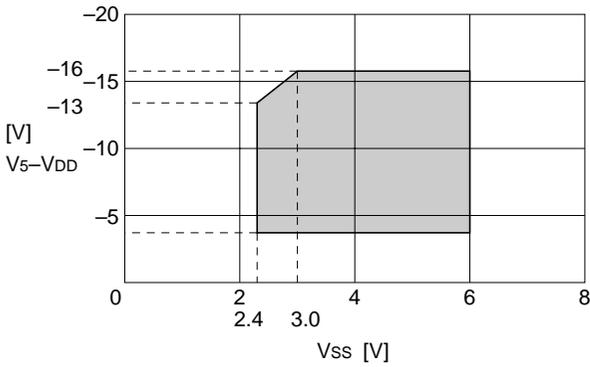

Figure 11
- *2. The operating voltage range of the V_{SS} and V₅ systems (see Figure 11). The operating voltage range is applied if an external power supply is used.
- *3. Pins A0, D0 to D7, \overline{RD} (E), \overline{WR} (R/W), $\overline{CS1}$, CS2, FR, SYNC, M/S, C86, SI, P/S, T1 and T2.
- *6. Pins A0, \overline{RD} (E), \overline{WR} (R/W), $\overline{CS1}$, CS2, CL, M/S, \overline{RES} , C86, SI, SCL, P/S, T1, and T2.
- *8. The resistance when the 0.1-volt voltage is applied between the "On" output terminal and each power terminal (V1, V2, V3 or V4). It must be within the operating voltage (2).